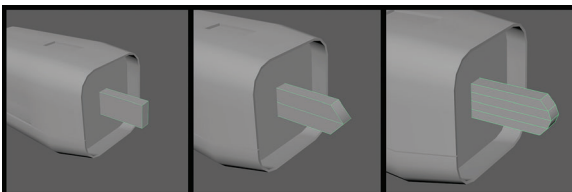

FIGURE 1.21 Creating the back arm by creating a simple cube, adding new edge loops, and tweaking those to create the desired shape.
Step 19: Back arm. Create a cube. Move and scale it to create the basic shape of the back arm. Add an edge loop in the middle and bevel it to give it curvature. Don't forget to smooth the edges of the rounded back (Figure 1.21).